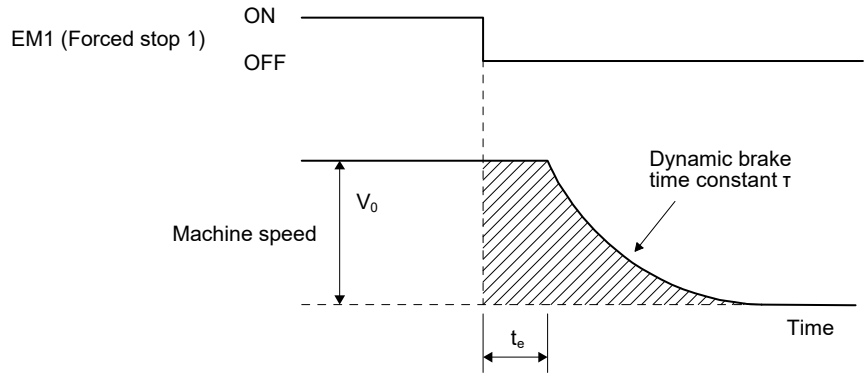

Fig. 18.2 Dynamic brake operation diagram
Fig. 18.2 shows the pattern in which the servo motor comes to a stop when the dynamic brake is operated. Use equation 18.1 to calculate an approximate coasting distance to a stop. The dynamic brake time constant τ varies with the servo motor and machine operation speeds. (Refer to (1) (b) in this section.)